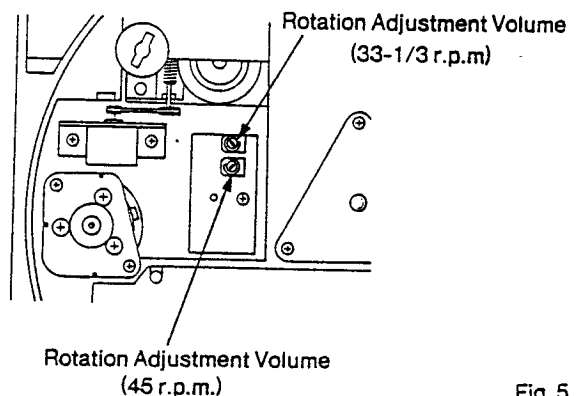

Fig. 5
2. Use the stroboscope sheet and adjust each volume to obtain proper rotations per minute. (Fig. 5)